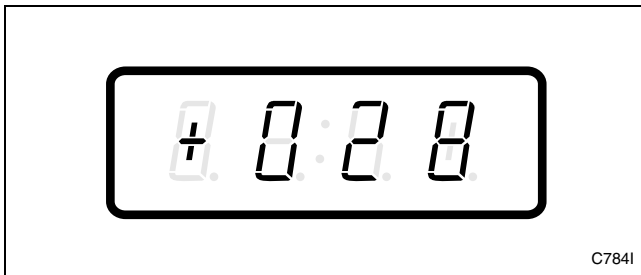

Figure 115
3. Press the DELICATES (+) or the COLD (-) keypad to scroll through the programmable options until “+028” appears in the VFD. Refer to *Figure 115*.